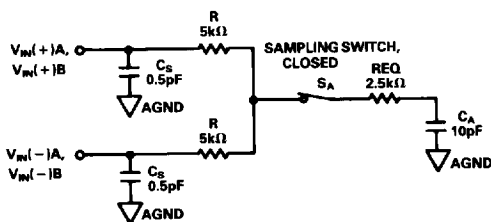
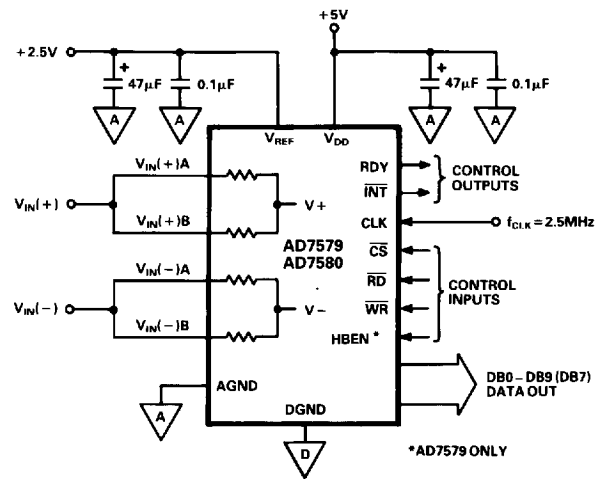

Figure 7. AD7579/AD7580 Equivalent Input Circuit During Sampling
Figure 12. Unipolar 2.5V Operational Diagram
Figure 7 shows an ac equivalent input circuit for the AD7579/AD7580 when used in the 2.5V Unipolar Mode of Figure 12. The ADC comparator is a sampled data comparator and the input circuitry for this is represented by S_A , R_{eq} and C_A . R_{eq} is a combination of the switch-on resistance and the input impedance of the comparator. When conversion starts, $V_{IN(+)}$ is sampled for at least $(2t_{CLK} + t_{WR} + 200ns)$ before the comparator goes into the hold mode. This means that the analog input has a minimum of $1.1\mu s$ ($f_{CLK} = 2.5MHz$, $t_{WR} = 100ns$) to settle before the comparator makes a decision. By using the typical values in Figure 7 for R , R_{eq} and C_A , the input time constant is $50ns$. Settling to $\pm 1/4LSB$ in a 10-bit system takes 8.3 time constants or $415ns$ in this case. This means that $V_{IN(+)}$ has plenty of time to settle before the ADC comparison cycle begins. It is important to remember that any source resistance or source capacitance appearing at the input will also increase the settling time and this should be kept to a minimum in all cases.
With a 2.5MHz clock, the AD7579/AD7580 has a maximum conversion time of $18.5\mu s$. If $1\mu s$ is allowed for reading the data outputs, the maximum sampling rate for the device is 50kHz. This means that the maximum analog input frequency is 25kHz according to the Nyquist theory. The ADC input impedance in the Unipolar Configuration of Figure 12 is $10M\Omega$. A medium bandwidth op amp will drive this at 25kHz. When the input attenuators are used for signal conditioning, the input impedance is $10k\Omega$. The drive requirements on the amplifier will now be greater but any errors resulting will be gain errors only. Suitable op amps for driving the AD7579/AD7580 in any of the input configurations are the AD711, AD OP-27, AD544. These will deliver specified device performance over the input bandwidth.
Figure 12 shows the AD7579/AD7580 connected in the standard unipolar mode. Figure 13 and Table V show the ideal input/output
Table V. Input/Output Code Table for Figure 12
*DECOUPLING CIRCUITRY AND CONTROL CIRCUITRY AS IN FIGURE 12
In many cases, users of the AD7579/AD7580 will want to measure single-ended input voltages (i.e., ground referred signals). The circuits of Figures 12, 14 and 15 can be easily adapted to accept such signals. If $V_{IN(-)}$ in Figure 12 is tied to AGND, then the analog input range is 0V to +2.5V. By connecting $V_{IN(-)}$ of Figure 14 to AGND, the analog input range becomes 0V to +5V. Figure 15 can be modified as in Figure 16 to accept input voltages in the range -2.5V to +2.5V. Each of these circuits are special cases of the Differential Input circuits and are achieved by making the negative input to the internal comparator equal to AGND.